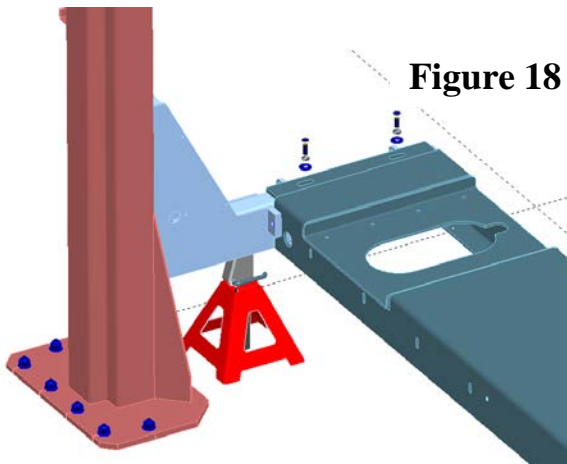
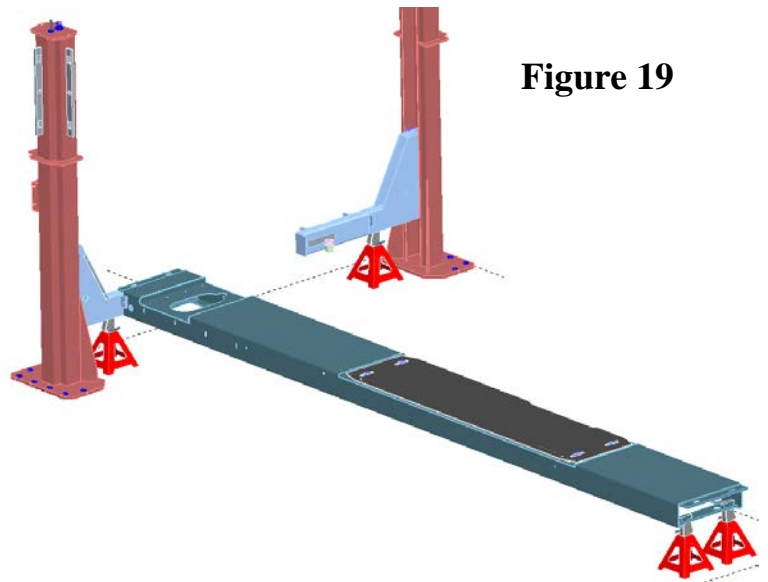

Figure 18
Figure 19
- Raise left side deck and place the front end plate of deck rests on top of front cross-member. Ensure the mounting slots in deck end plate line up with (threaded) mounting holes in cross-member (**Fig.18**). Support rear end on a jack stands (**Fig.19**).